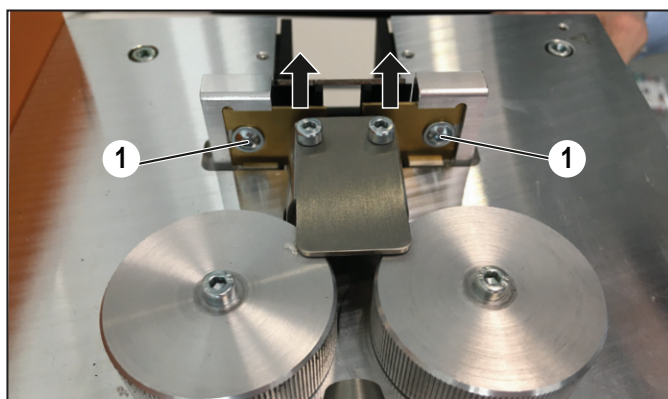

Figure 8.1 Cutting blades
- ▶ Loosen the fixing screws (Figure 8.1, 1).
- ▶ Remove both blades (Figure 8.1, 2) with tweezers.
- ▶ Tighten both mounting screws (Figure 8.1, 1) again.